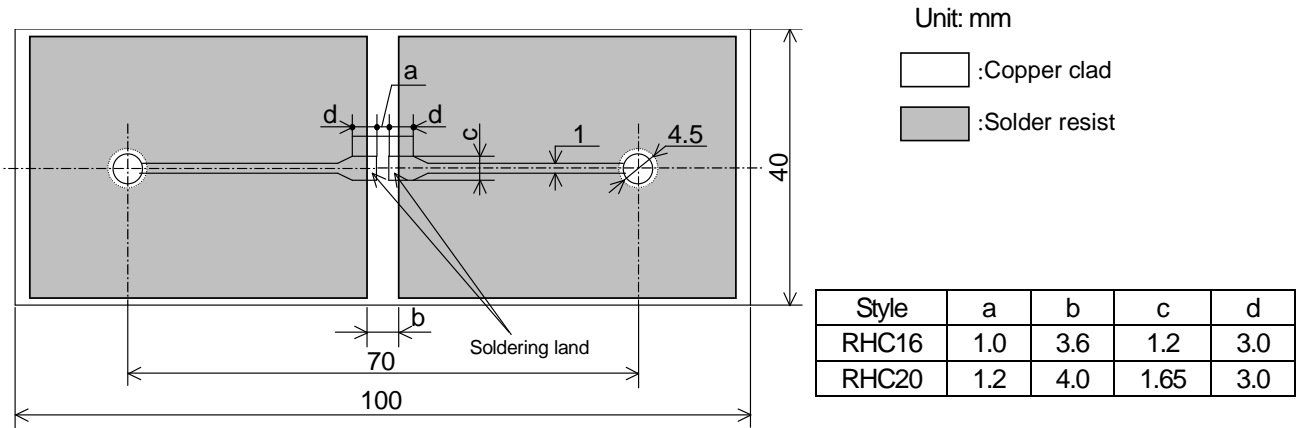

Figure-3 RHC BOUND STRENGTH OF THE END FACE PLATING TEST SUBSTRATE
| 7 | Substrate bending test | Sub-clause 6.1.4 (1) The resistor shall be mounted on the test substrate as shown in Figure-3. Bending value: 5 mm (Among the fulcrums: 90 mm) Duration: 10 s ± 1 s | No evidence of mechanical damage. |